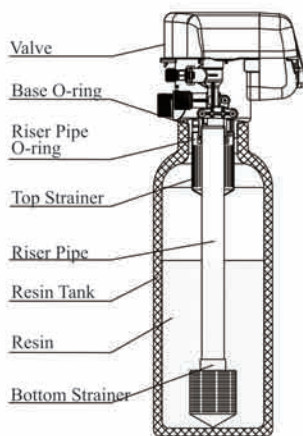

Figure 1
- ① The filter or softener should be located closely to drain.
- ② Ensure the unit is installed in enough space for operating and maintenance.
- ③ Brine tank is needed to be close to softener.
- ④ The unit should be kept away from the heater and exposed to outdoor. Sunshine or rain will cause the system damage.
- ⑤ Please avoid installing the system in one acid/alkaline, magnetic or strong vibration circumstance, because above factors will cause the system disorder.
- ⑥ Do not install the filter or softener, drain pipeline in circumstance which temperature may drop below 5°C, or above 50°C.
- ⑦ Install the system in the place where with the minimum loss in case of water leaking.
① Install control valve
a. As the Figure 1 shows, select the riser pipe with 32mm OD, glue the riser pipe to the bottom strainer and put it into the mineral tank, cut off the exceeding tube out of tank top opening. Plug the riser tube in case of mineral entering.